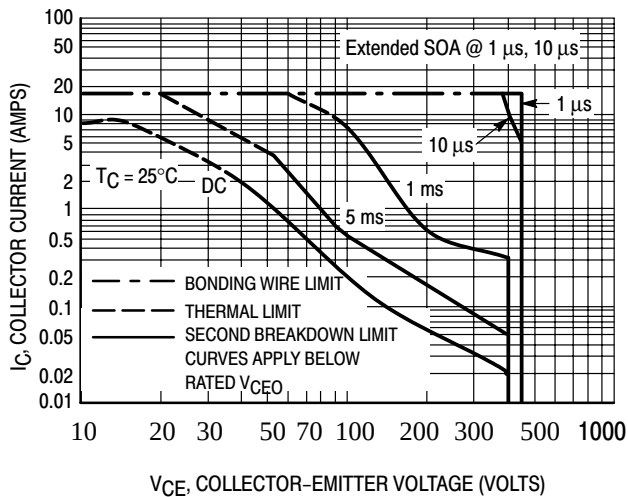
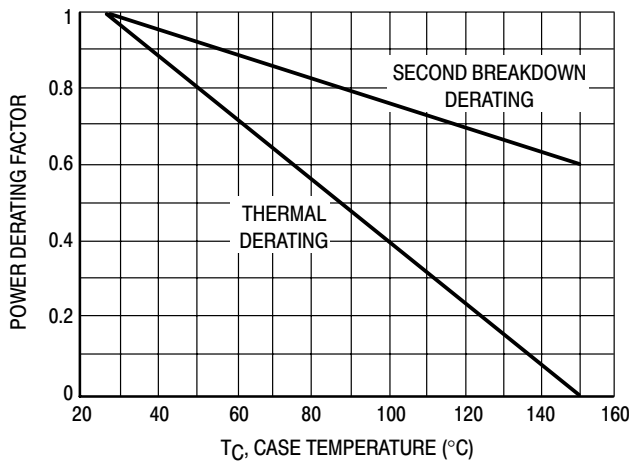

Figure 6. Maximum Forward Bias Safe Operating Area
Figure 8. Forward Bias Power Derating
The data of Figure 6 is based on $T_C = 25^\circ\text{C}$; $T_J(\text{pk})$ is variable depending on power level. Second breakdown pulse limits are valid for duty cycles to 10% but must be derated when $T_C \geq 25^\circ\text{C}$. Second breakdown limitations do not derate the same as thermal limitations. Allowable current at the voltages shown on Figure 6 may be found at any case temperature by using the appropriate curve on Figure 8.
The sustaining or active region voltage requirements in switching applications occur during turn-on and turn-off. If the load contains a significant capacitive component, high current and voltage can exist simultaneously during turn-on and the pulsed forward bias SOA curves (Figure 6) are the proper design limits.
4. The turn-on time does not exceed 10 μ s (see standard pulsed forward SOA curves in Figure 6).